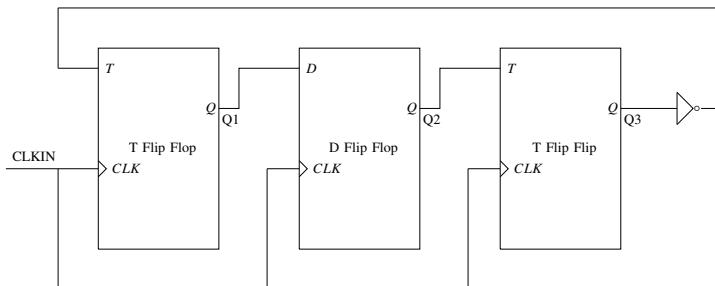

Fig. 5.11
11. Consider a sequential digital circuit consisting of T flip-flops and D flip-flops as shown in Fig. 5.11. CLKIN is the clock input to the circuit. At the beginning,  $Q_1, Q_2$  and  $Q_3$  have values 0, 1 and 1, respectively.